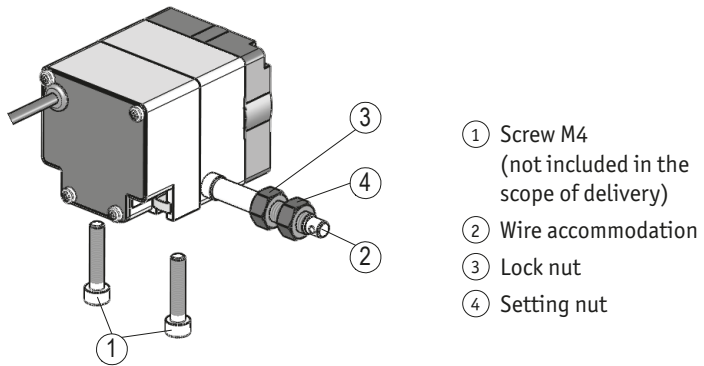

Fig. 4: Mounting
- ▶ Do not twist the wire seat or wire (see Fig. 4).
Mounting (Fig. 4):